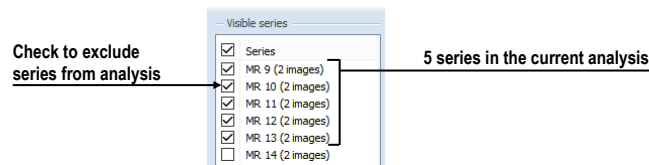

Figure 369 – Series in analysis section in the tool tab
1. In the **Quantitative analyses** tool tab, in **Visible series** list (see Figure 369), find the series which needs to be included or excluded.